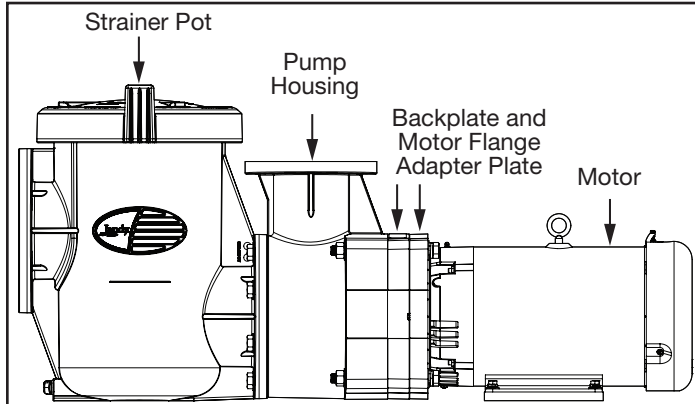

Figure 11. JCP Pump with Strainer Pot Assembly
5. Using a 15/16" wrench, loosen the eight (8) 5/8" Hex Screws securing the Strainer Pot assembly to the pump housing/motor body. See Figures 11 and 12.